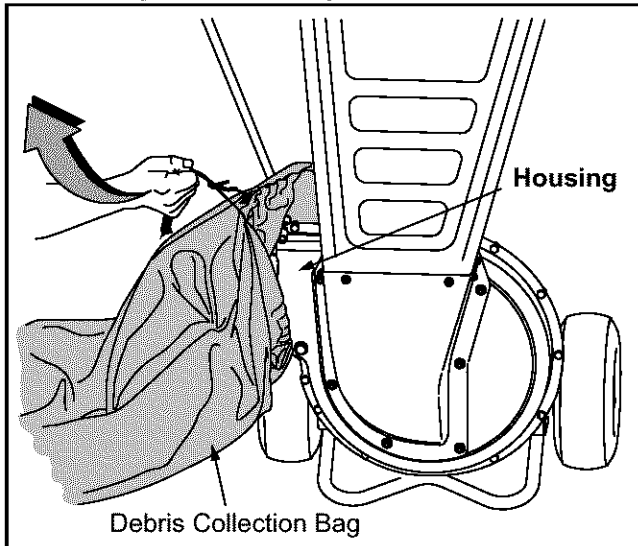

Figure 4
- Pull on the drawstrap until the bag is tight around discharge chute. See Figure 4.
- Empty the bag and reattach to the discharge chute opening. Refer to Figure 4.